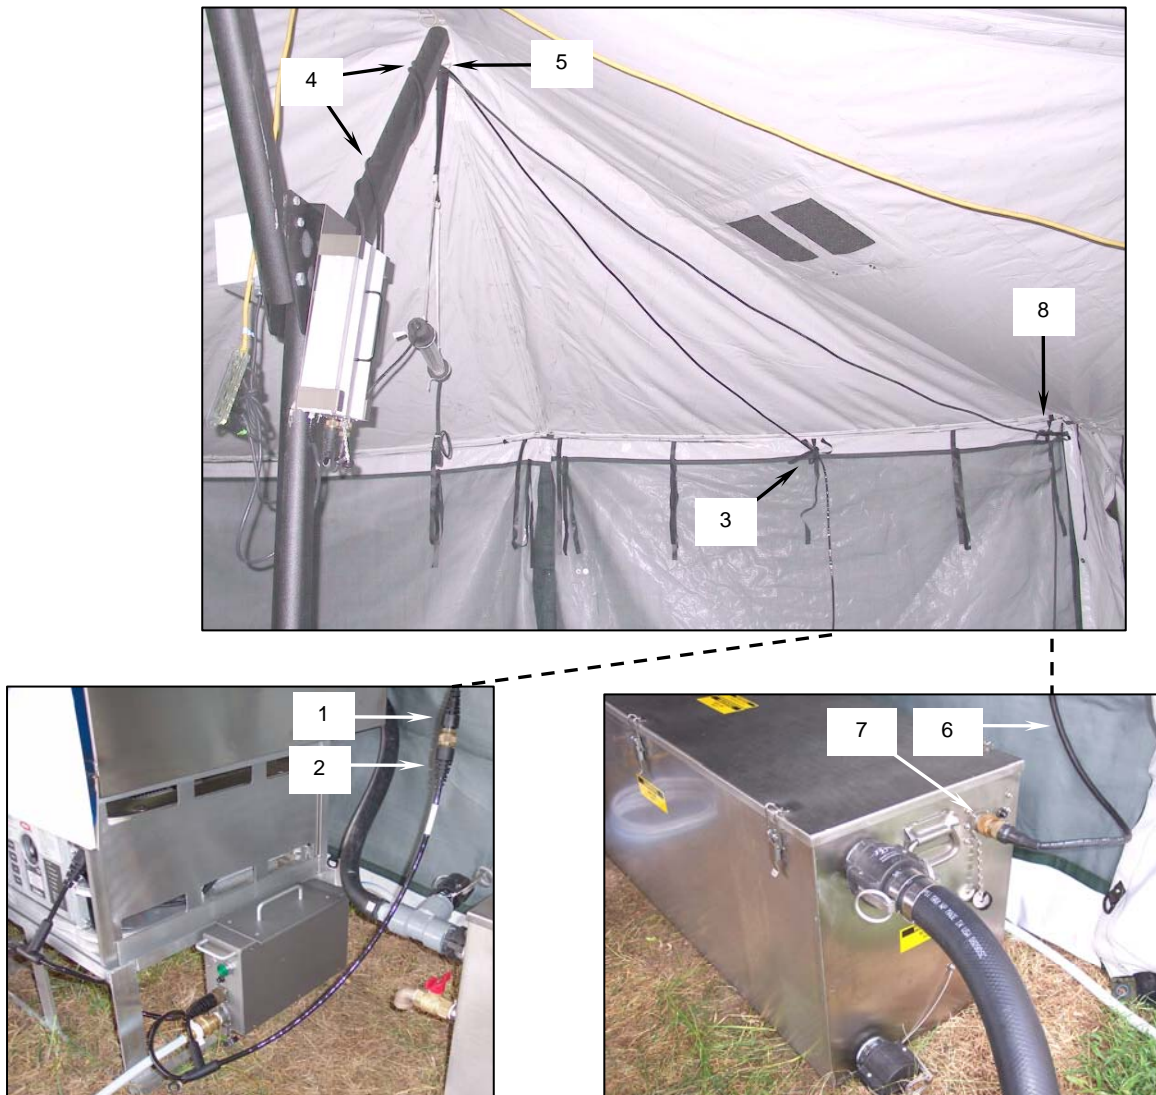

Figure 35. DC Power Cable Removal.
- d. Disconnect the 25-ft DC power cable (Figure 35, Item 1) from the end of the MBU power cable (Figure 35, Item 2).
- e. Remove the 25-ft DC power cable from the tent by untying the cable from the tent strap (**Figure 35, Item 3**), unwrapping the cable from the “Y” arm of the tent center pole (**Figure 35, Item 4**), and sliding the cable out of the D-ring (**Error! Reference source not found.5, Item 5**) at the top of the tent.
- f. If not already done, disconnect the grease separator power cable (**Figure 35, Item 6**) from the grease separator electrical connector (**Figure 35, Item 7**). Cap the grease separator connector.
- g. Remove the grease separator power cable from the tent by untying the cable from the tent strap (**Figure 35, Item 8**), unwrapping the cable from the “Y” arm of the tent center pole (**Figure 35, Item 4**), and sliding the cable out of the D-ring (**Figure 35, Item 5**) at the top of the tent.